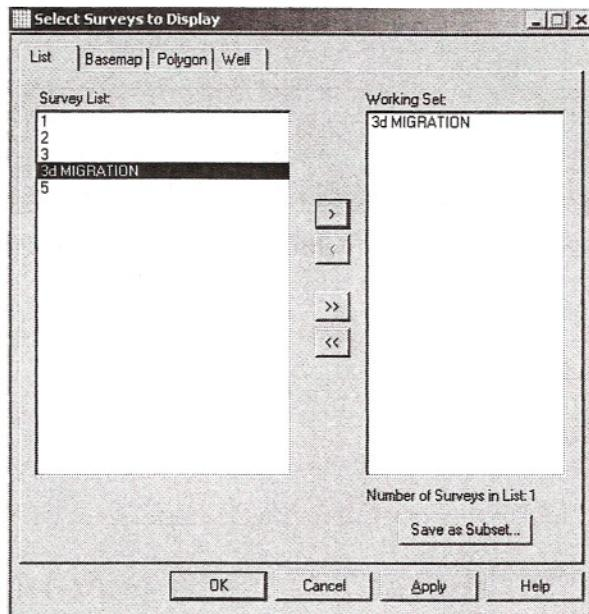

Figure 1.10 - Select Surveys to Display dialog box
1. Select Surveys > Select Surveys to Display > By List or Graphically (Figure 1.10).